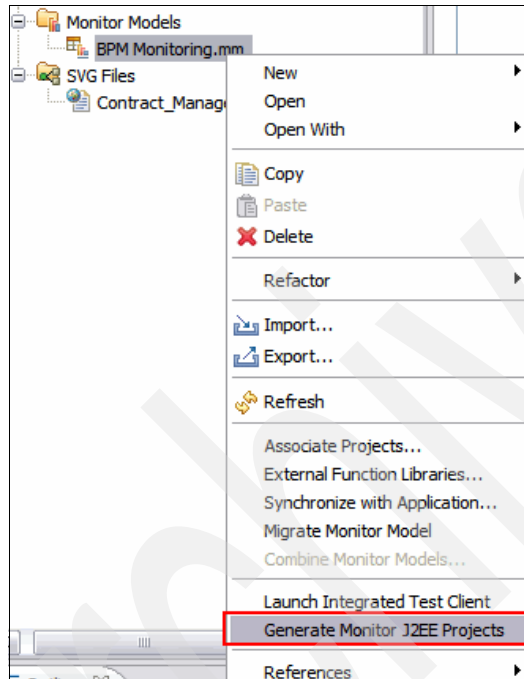

Figure 7-115 Selecting Generate Monitor J2EE Projects
1. In Project Explorer, expand **BPMMonitoring** → **Monitor Model**. Right-click **BPMMonitoring.mm** and select **Generate Monitor J2EE Projects** (Figure 7-115).